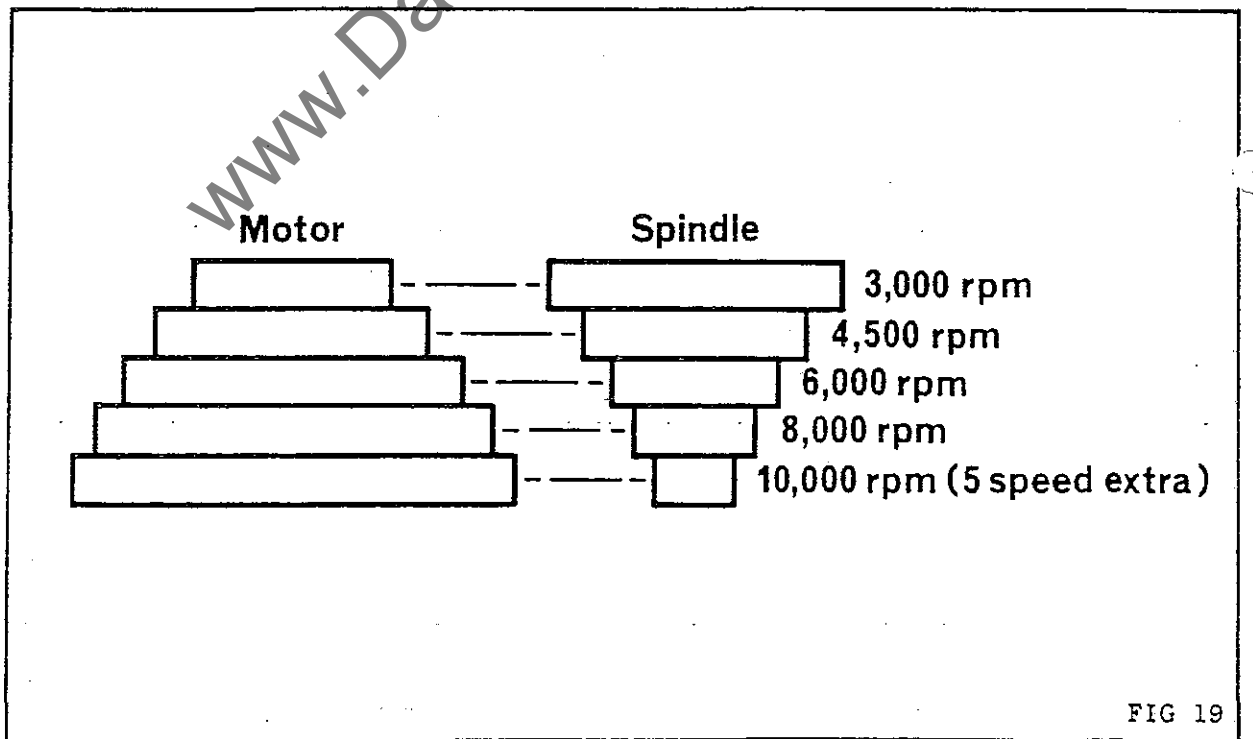

FIG 19
4. Position drive belt "B" on pulleys for required spindle speed, SEE FIG 19, FOR SPINDLE PULLEY LAYOUT AND SPEEDS